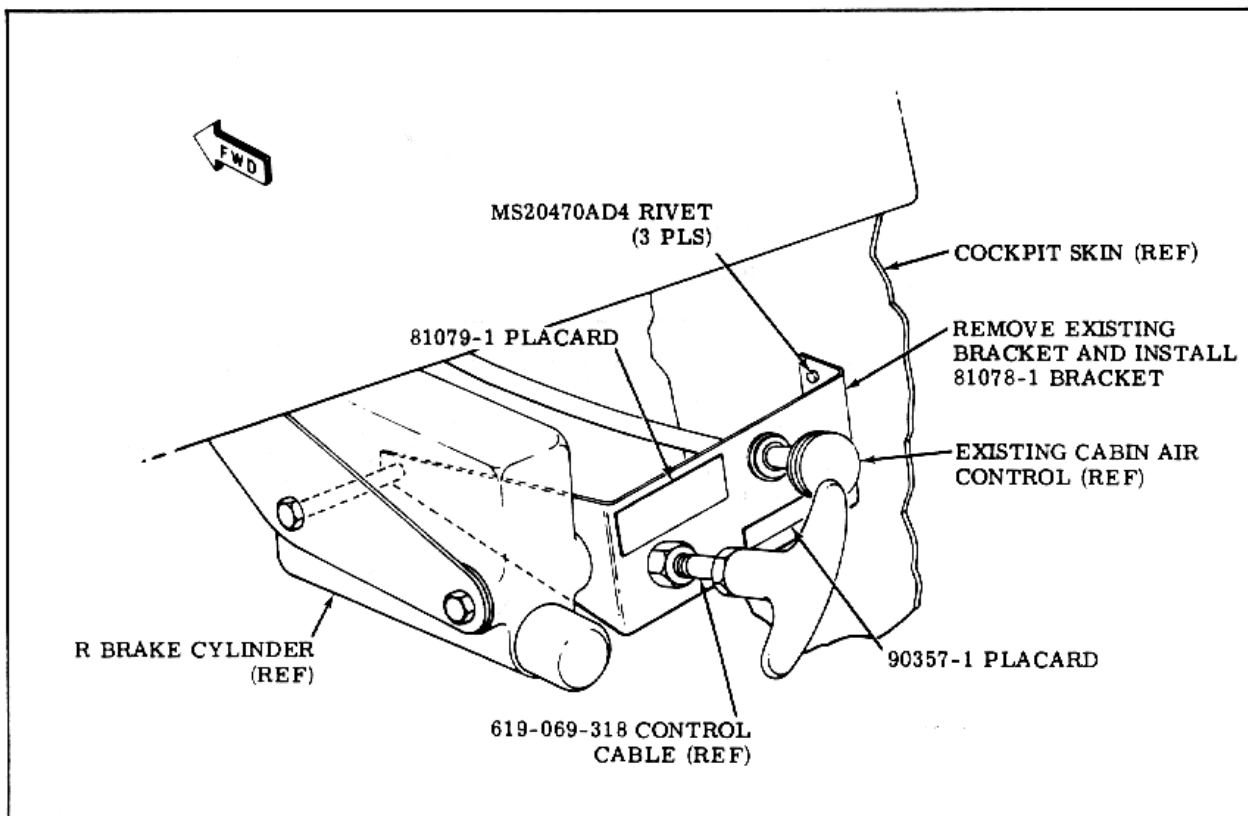

Figure 2.
- k. Install 81078-1 control cable bracket (see Figure 2.).
- m. Reconnect existing cabin air control cable to control cable bracket (see Figure 2.).
- n. Install 90357-1 placard and 81079-1 placard on control cable bracket (see Figure 2.).